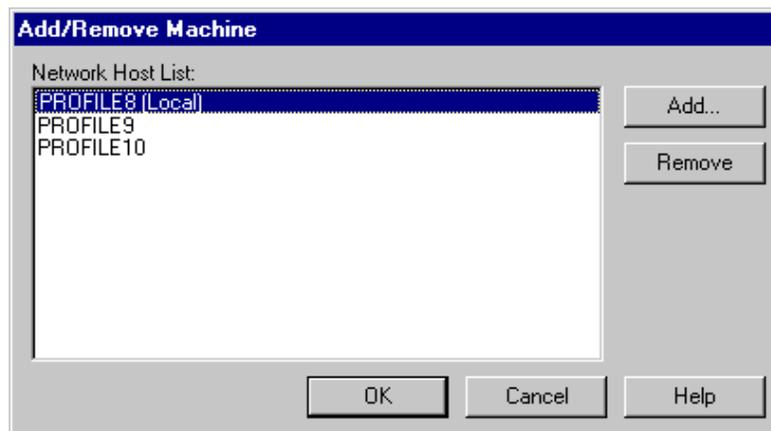

Figure 43. Add/Remove Machine dialog box
1. Choose **Add/Remove Machine** from the **File** menu or from the shortcut menu with a right-click on a machine, volume, or network icon in the tree pane. You can also click the **Add/Remove Machine** button on the toolbar. The Add/Remove Machine dialog box appears (see Figure 43). The label *Local* appears after the name of the local Profile machine.